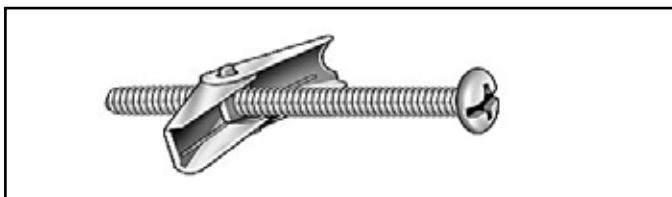

Figure 4.4 3/16 Toggle-Bolt Anchor
- For every mounting hole that does not align with a structural framing member, a wall board toggle-bolt anchor must be used. See Figure 4.4.